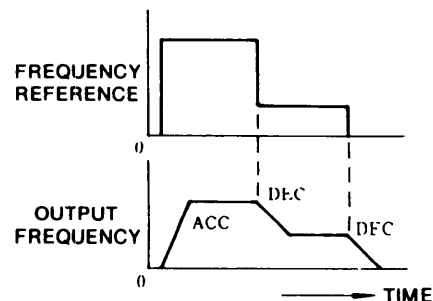

Fig. 4 Accel/Decel Time Setting
(4) Acceleration and deceleration time setting circuit: Smoothly changes the output frequency upon a rapid change of the frequency reference signal. Acceleration and deceleration times can be independently set by the acceleration (ACC) and deceleration (DEC) time setting potentiometers (Fig. 4).
(5) Stall prevention circuit